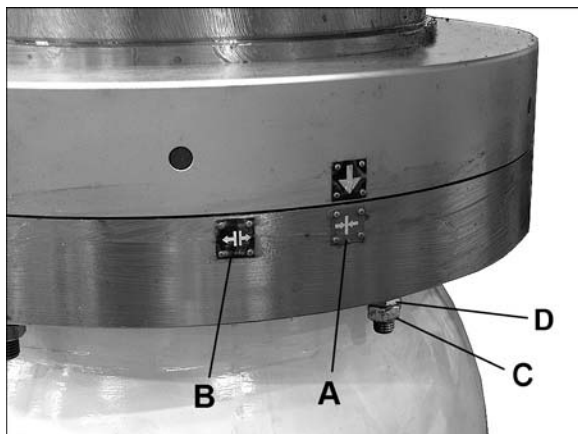

Figure 16: Clamping adjustments
Refer to Figure 16.
1. Press and hold *unlock button* (see Figure 10) until arrow (Figure 16) points to “B”. Release button. Clamping device is now disengaged.
2. Loosen the five *locking nuts* (C).
3. Turn the five upper *adjusting nuts* (D) counterclockwise approximately 180°.
4. Re-tighten the five locking nuts (C).
8. Release locking nut. (E, Figure 16).
9. Rotate adjustment nut (F) approximately 180° clockwise.
10. Retighten locking nut (E).